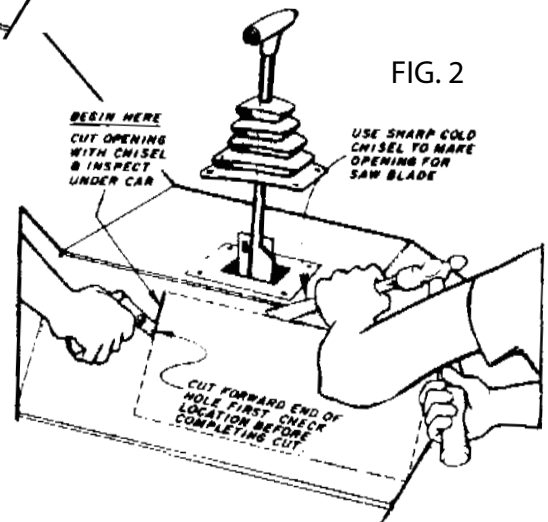

FIG. 2
2. To cut the hole in the floorboard, start at the cut point indicated in Fig. 2. Check location of cut under floor **BEFORE** completing the cut to assure that the opening is behind the cross-stiffener under the floor pan. Cut the rest of the opening carefully and file the raw edges smooth.